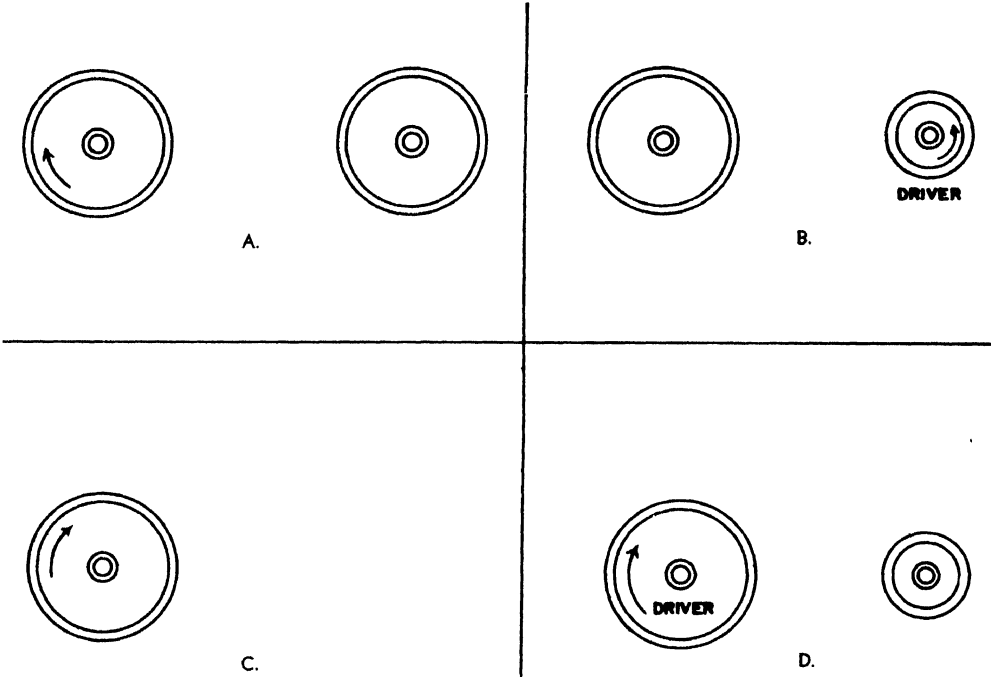

FIG. 44. BELTING PROBLEMS.
- Complete the diagrams in Fig. 44 showing how a belt can be used in a pulley system to a) *Change direction of rotation* b) *Reduce speed* c) *Retain same speed* d) *Increase speed*.